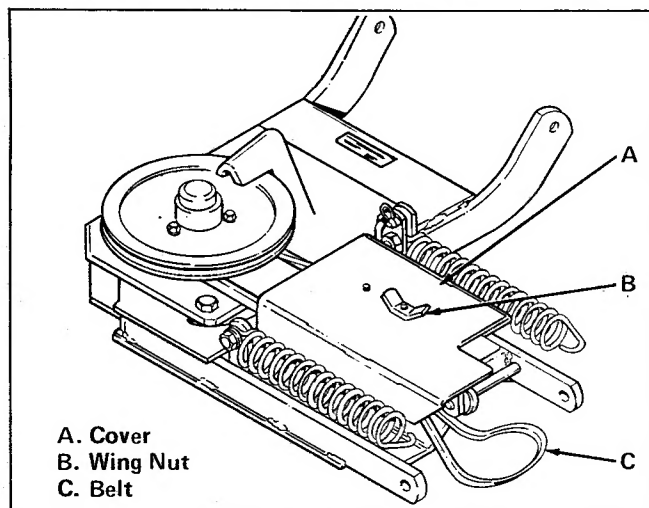

Figure 35. Remove Cover
3. Remove cover (item A, figure 35) by removing wing nut (item B). Lift off cover.